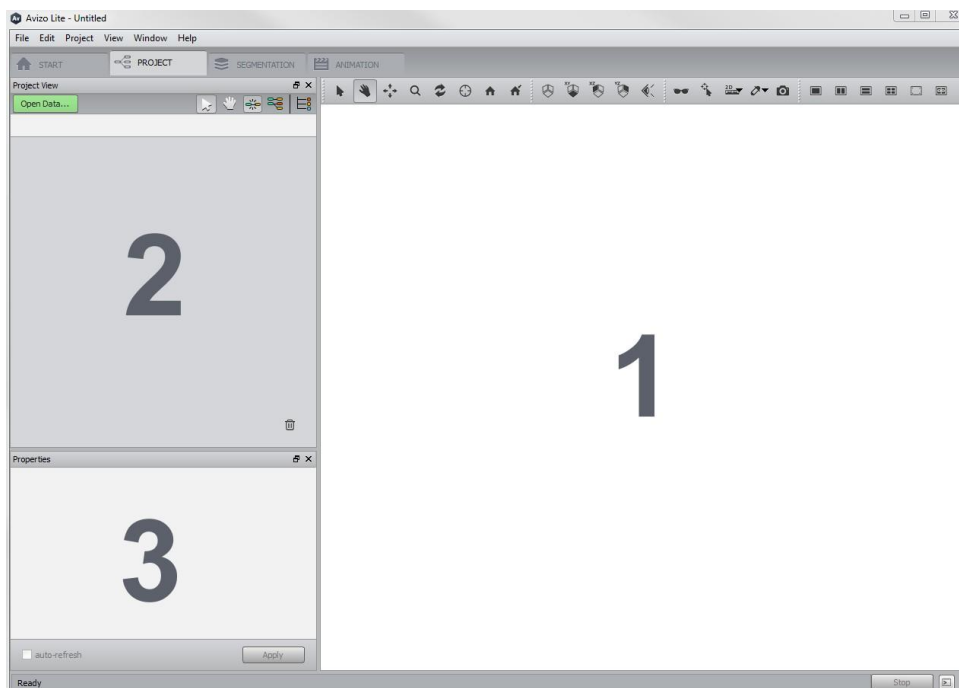

Figure 5 – General overview of the Project environment
The Project environment has several components: a 3D visualization window and its toolbar (1), a Project View window (2), and a Properties window (3), see Figure 5.